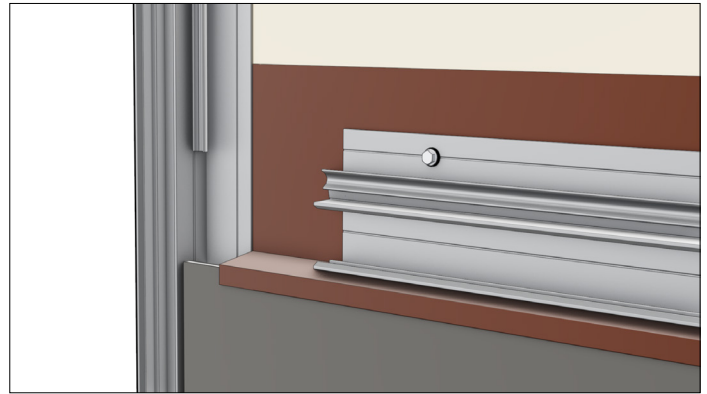

Figure 23.1
24. Cut 2" notches in the panel platforms of the Q03B Vertical back plate where the Q03B Horizontal Trims meets at 90 degrees. The notch is needed to accommodate greater overlap of top cap tabs for maximum Fit&Finish™. (Figure 23.1)